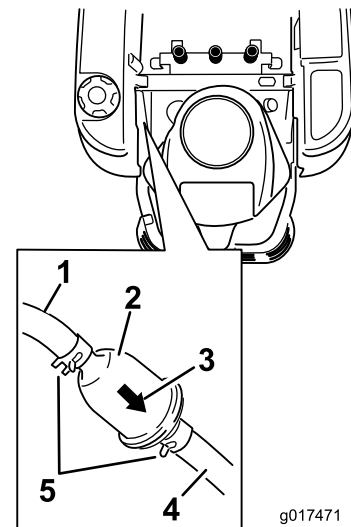

Figure 36
3. Locate the fuel filter on the side of the engine as shown in Figure 36.
4. Squeeze the ends of the hose clamps together and slide them away from the filter (Figure 36).
6. Install a new filter with the flow direction arrow coming from the fuel tank and pointing to the engine. Move the hose clamps close to the filter (Figure 36) to secure it in place.